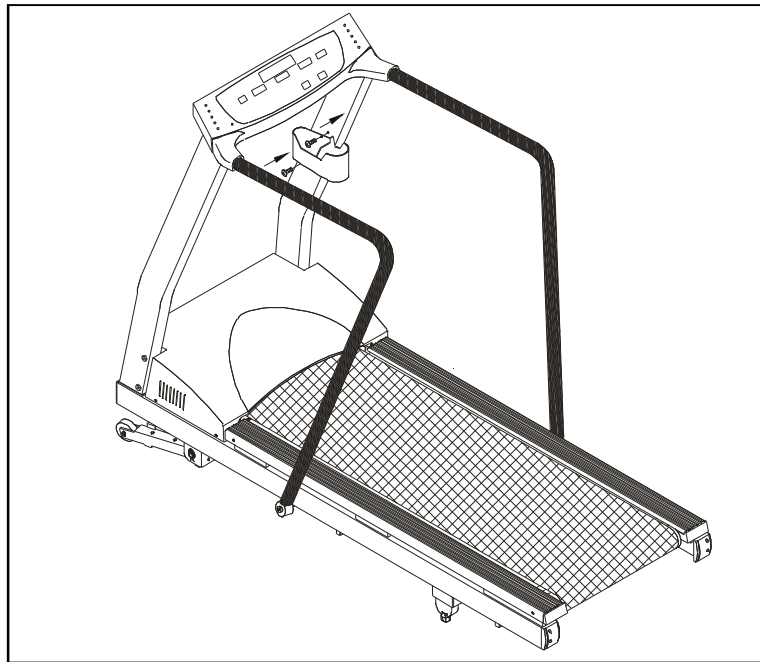

Fig.4
4. Assemble the water bottle/personal stereo holder to the right front post using the screws provided.(see Fig.4)